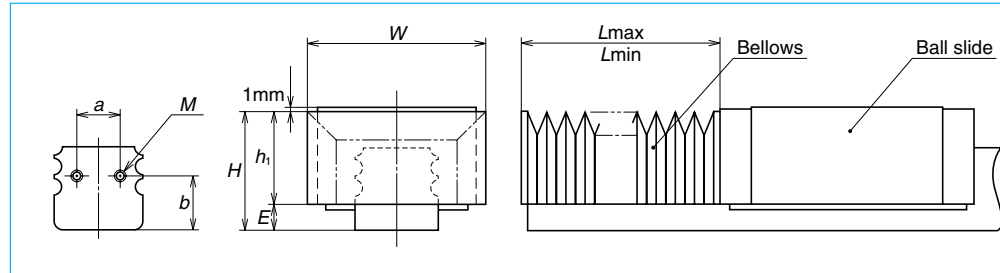
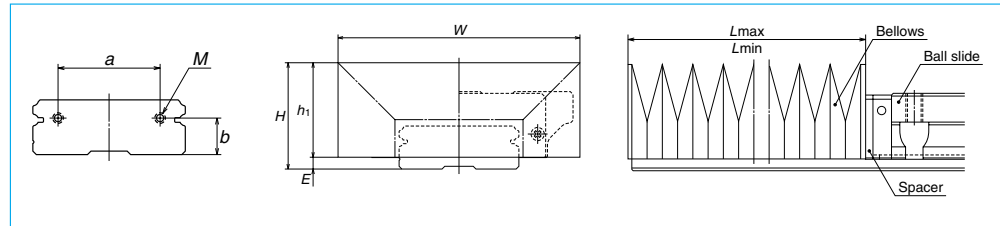

Fig. II-5-11
Fig. II-5-12
③ LA and LW Series
- \* Installation to the ball slide (Fig. II-5-11 and Fig. II-5-12)